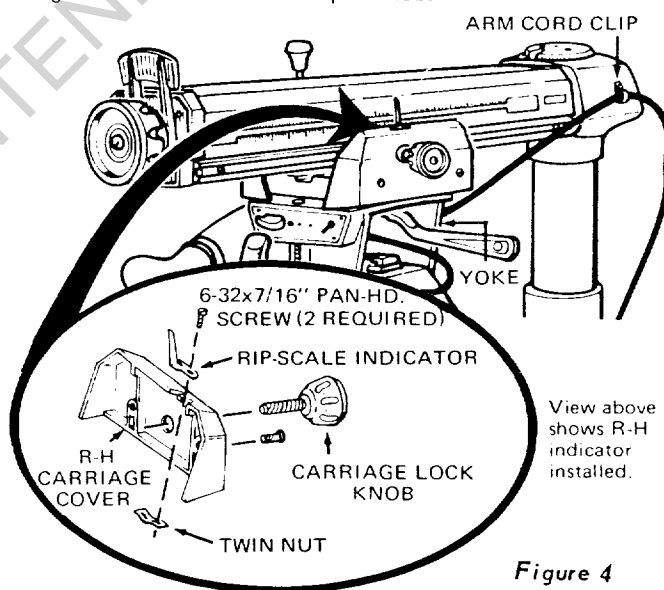

Figure 4
5. Installing the Rip Scale Indicators (Figure 4)
1. Removing the Guard and Saw Blade (Figures 4, 5 and 6)